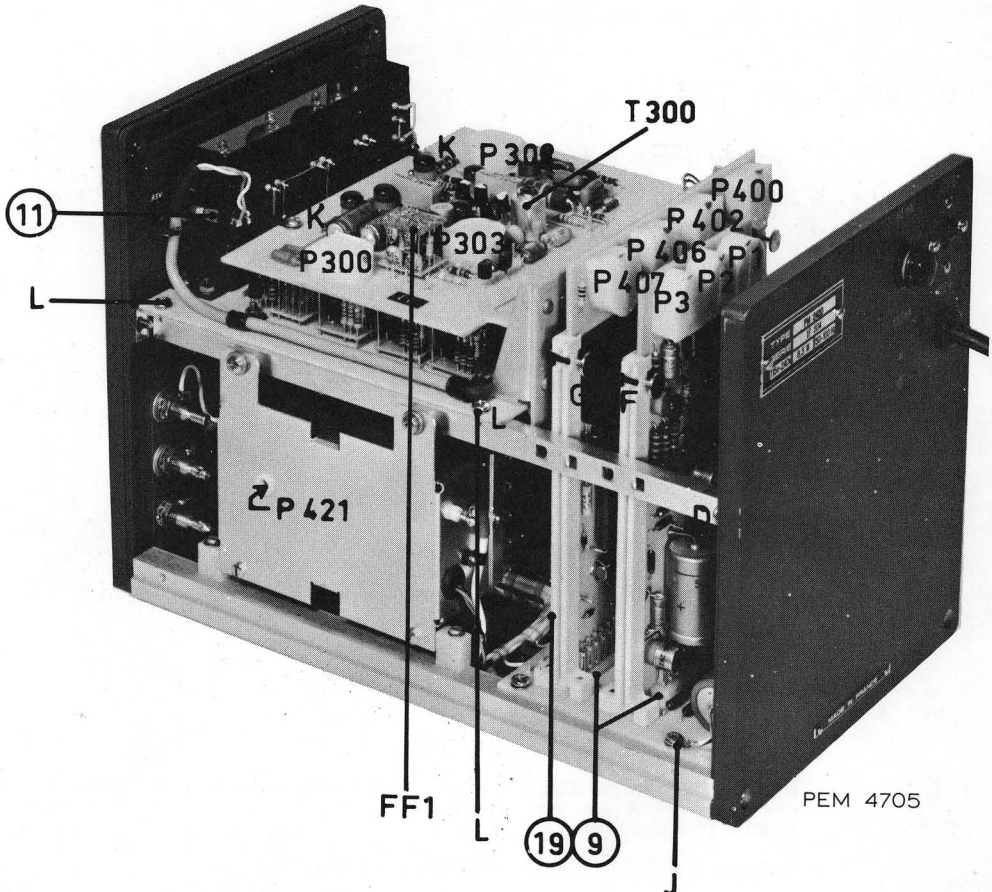

Fig. 20. Right-hand side view
- Remove the two screws "D" (Figs. 20 and 21) and "E" (Fig. 25).
- Push the four locking pins "F" and "G" (Figs. 20 and 21) forward.
- Remove four screws "J" (Figs. 20 and 21).
- Remove two screws "K" (Fig. 20).
- Remove two screws "L" (Fig. 20).
Note: U3 and U5 can be hinged out together (see Fig. 32) after loosening the screws "L" (Fig. 20).
- Remove the screws "O" (Fig. 20).